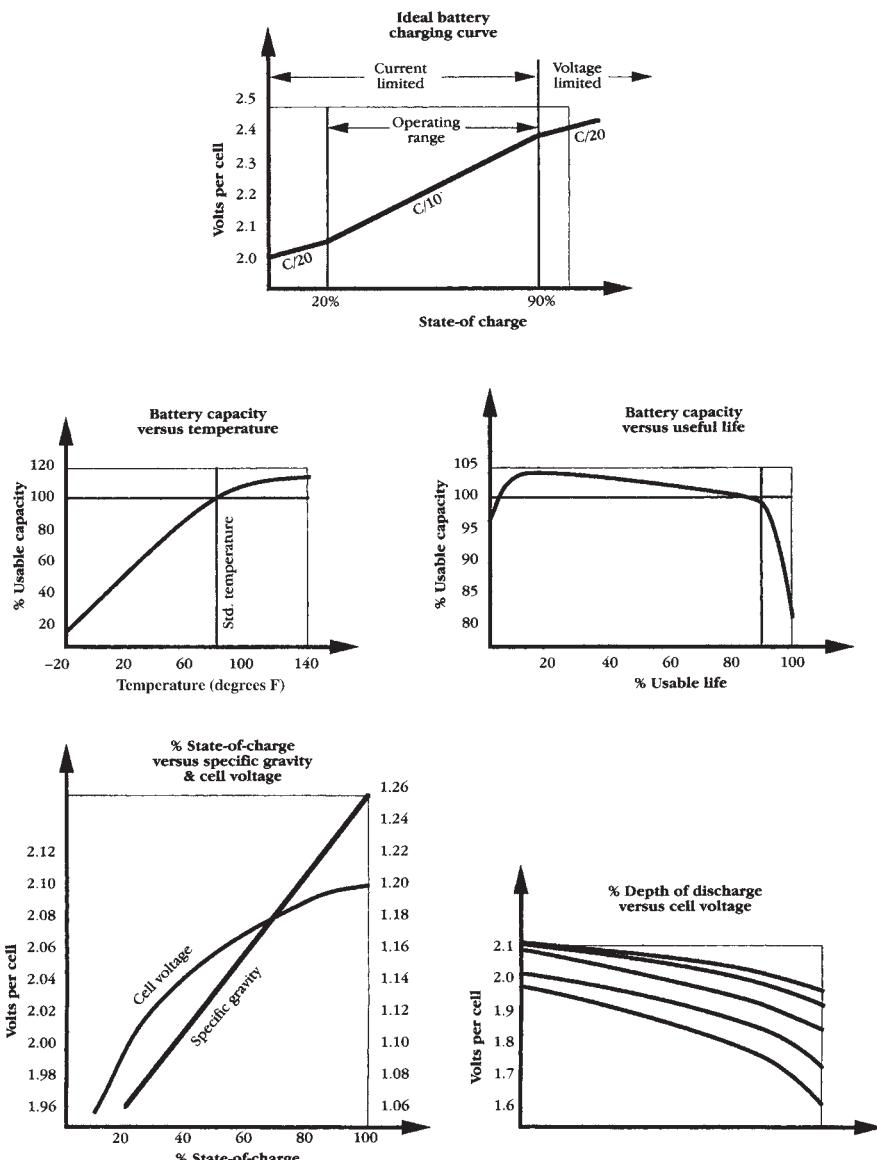

FIGURE 8-2 Lead-acid battery charging and discharging characteristics.
- Unlike with discharging, you can control the destiny of your batteries during the charging process. In fact, it's vital that you do, because both overcharging and undercharging shorten battery life. Continually overcharged or too rapidly charged batteries can be destroyed; constantly undercharged batteries become sulfated and inefficient. Chapter 9 covers modern battery rechargers that can help you. The top of Figure 8-2 shows the ideal battery charging curve.
Because the energy stored in a lead-acid battery is dependent on a chemical reaction, everything about it is affected by temperature: capacity, voltage, current, etc. Because the lead-acid chemical reaction is most efficient at 78 degrees F, most battery manufacturers rate their batteries at this “standard” temperature. The middle-left diagram in Figure 8-2 shows that the output of a battery is strongly affected by the
Battery capacity is also highly dependent on age. The middle right diagram in Figure 8-2 shows that the battery's capacity starts at about 95 percent when brand-new, rises to about 105 percent after it has been used for about 20 percent of its lifetime, stays fairly level, then drops off rapidly after 90 percent of its lifetime. One observation is that a brand new EV battery pack will not give you as good a result as one that's been used awhile. Another observation is that once you begin to see battery performance go down significantly, it's time to think about buying another set.
An examination of Figure 8-2's temperature curve suggests its corollary—that batteries kept at cold temperatures don't discharge themselves at all. True, but you also can't get the energy out of the battery for your own use at cold temperatures! If you are planning to store your batteries for a few months, 40 degrees F is the best temperature. Fully charge your batteries before storage and warm them up before using them.
The lower left graph of Figure 8-2 shows why specific gravity has been used as a battery state-of-charge indicator for so long: it's an easy-to-use-and-understand straight line. Unfortunately, it doesn't show you that temperature directly affects specific gravity (specific gravity measures higher at lower temperatures). In addition, the device used to measure it, the bulb hydrometer, is prone to calibration, compensation, and readout errors because you're typically measuring in the range from 1.100 to 1.300 to three decimal places. And if you use a hydrometer on a regular basis, it's virtually guaranteed that you'll contaminate one or more battery cells.
The maxim "haste makes waste" is absolutely true when discharging batteries. The lower-right graph of Figure 8-2 shows that the faster you discharge your batteries, the lower the voltage (the less capacity) you have. If you take more and more from less and less, eventually you wind up with nothing at all—a polite way of saying over-discharging kills battery life.